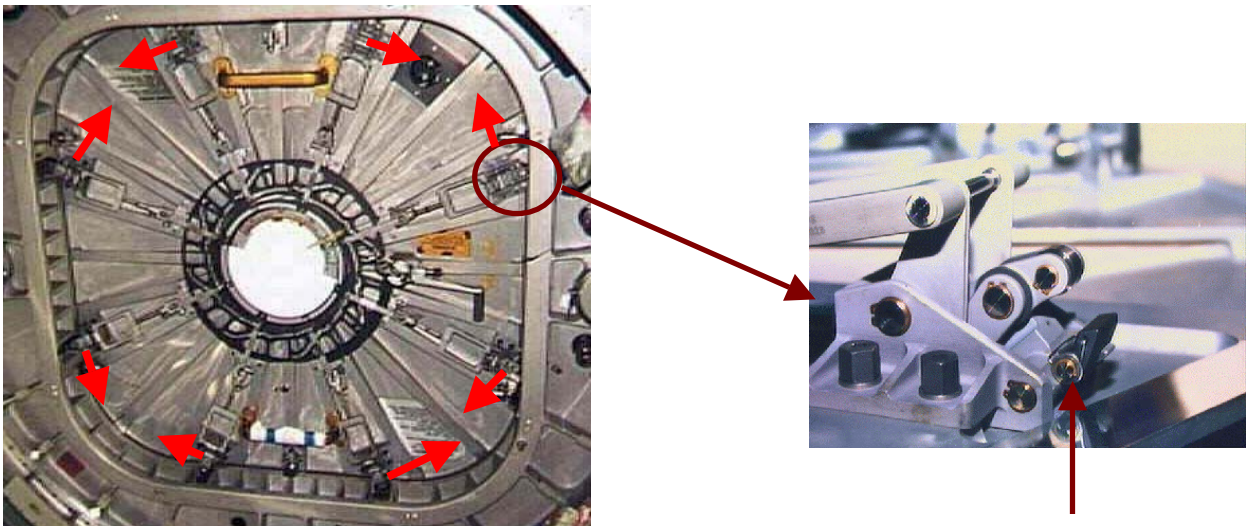

Figure 1.- Hatch Kicker Pin Location.
10. Check Hatch kicker pins (eight) slid toward the closest Hatch corner. Refer to Figure 1, slide in direction of red arrows.